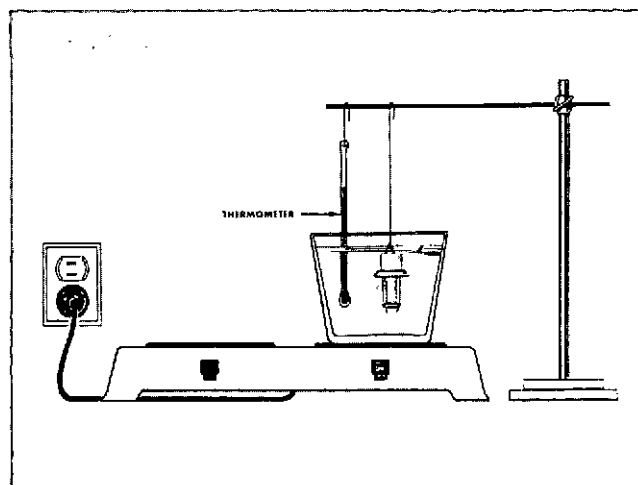

Fig. 8-3-2, N10809. Testing thermostat
- a. Immerse thermostat and thermometer (1, Fig. 8-3-2) in water.